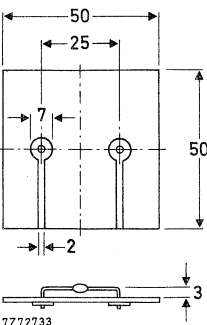

Fig. 2 Mounted on a printed-circuit board.
2. Thermal resistance from junction to ambient; device mounted on a 1,5 mm thick epoxy-glass printed circuit board; Cu-thickness  $\geq 40\text{ }\mu\text{m}$ ; Fig. 2 (see "Thermal Model")
- = ambient temperature and device mounted as shown in Fig. 2